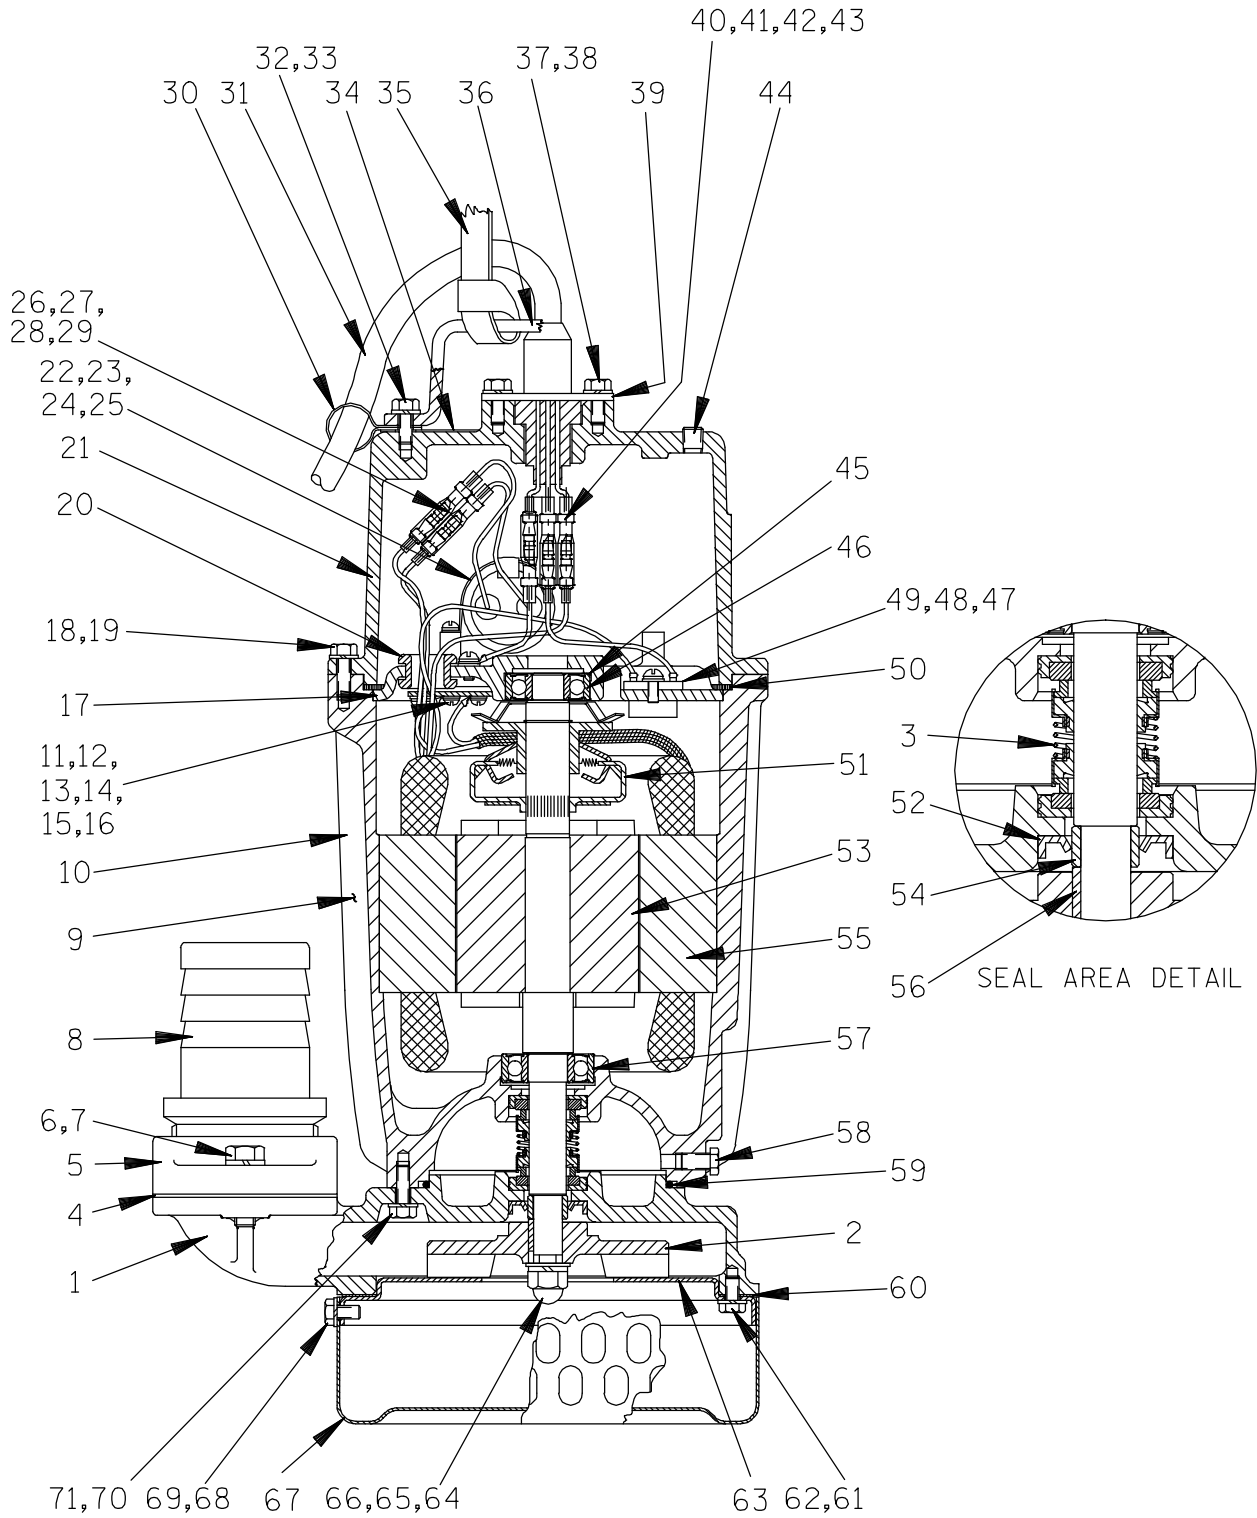

Figure E-1. Pump Model SE2C3 115V 1P
- a. See Figure E-1 in Section E, and disconnect the leads to the capacitor.
This pump requires little service due to its rugged, minimum-maintenance design. However, if it becomes necessary to inspect or replace the wearing parts, follow these instructions which are keyed to the sectional view (see Figure E-1) and the accompanying parts list.
#### (Figures E-1 and E-2)
(Figures E-1 and E-2)
Position the dust seal (52) in the pump casing bore as shown in Figure E-1 and press it into the pump casing until fully seated.